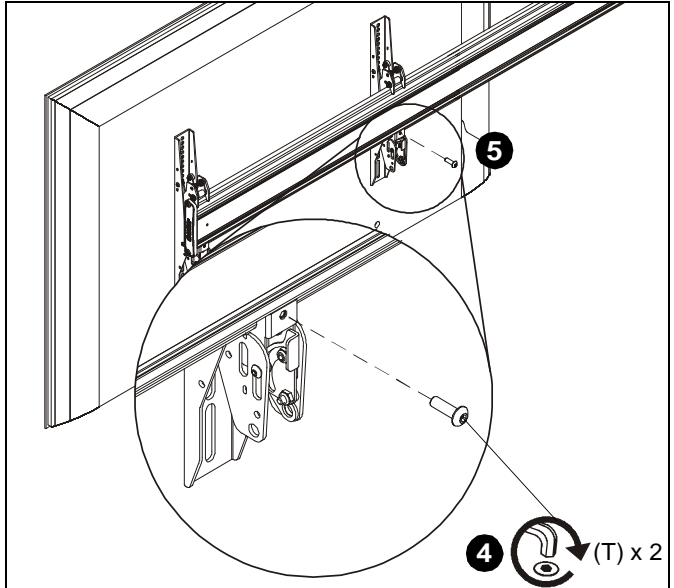

Figure 12
4. Fasten bracket against mounting rail using one 10-24 x 5/8" button head cap screw (T). (See Figure 12)